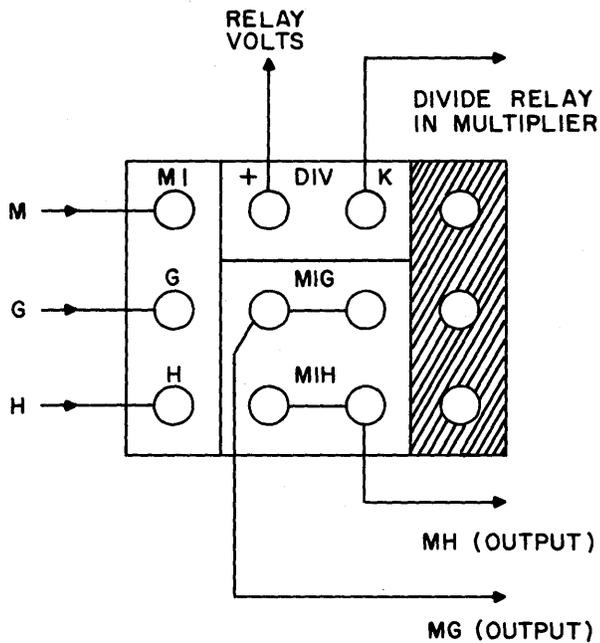

Figure 13. Electronic Multiplier Patching.
(4) *Electronic Multipliers.* Figure 13 shows inputs patched to M, G, and H, with products  $-MH/100$  and  $-MG/100$  available at the dual output terminals. To use the Electronic Multiplier as a divider, a red bottle plug is inserted into the DIV terminals labelled + and K. This operation energizes the divider relay in the multiplier. One output is produced in this mode of operation equal to  $-M/100$ , and is taken from the terminals marked MG.